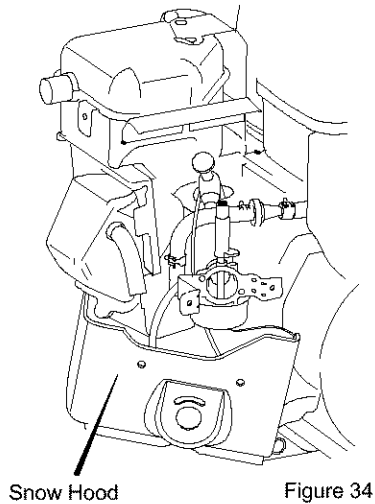

Figure 34
4. Slowly remove the snow hood (see Figure 34). Make sure that the primer button hose and the ignition wire are not disconnected.